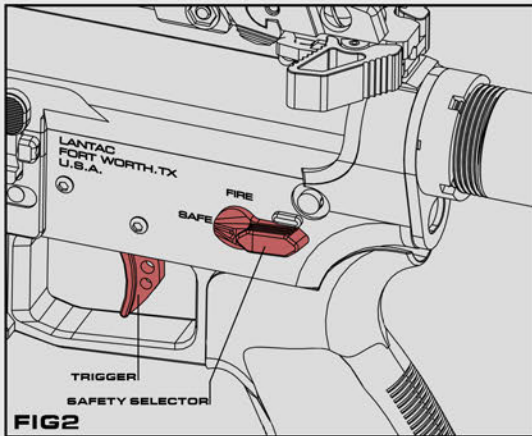

FIG2
2. PRESS THE MAGAZINE CATCH RELEASE BUTTON AND CAREFULLY PULL THE MAGAZINE DOWN AND OUT OF THE MAGAZINE WELL, FIG2.
4. WITH THE RIFLE POINTED IN A SAFE DIRECTION, PLACE THE SELECTOR IN THE 'SAFE' POSITION AND PULL THE TRIGGER, FIG2.